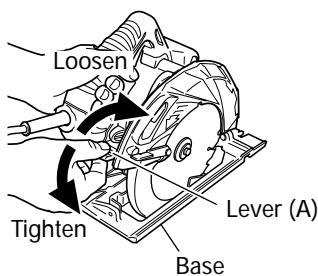
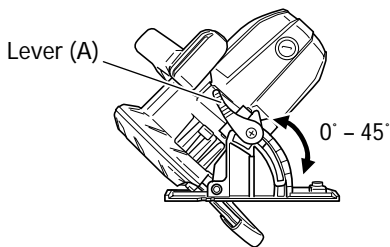

Fig. 3
Fig. 4
7. Check if lever (A)s are tightened.
If the lever (A) to adjust cutting depth (Fig. 3) and lever (A) to adjust angle of inclination (Fig. 4) are loose, injury can result. Make sure that they are tightened securely.
1. Adjusting the cutting depth (Fig. 3)
You can incline saw blade from 0° to a maximum angle of 55° in relation to the base. As shown in Fig. 4 by loosening the lever (A) on the bevel scale, the saw blade may be inclined to an angle of 45° in relation to the base.